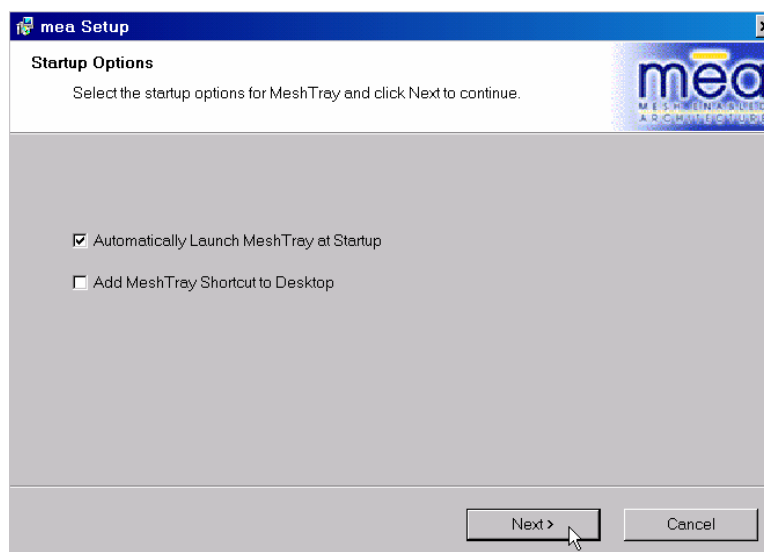

Figure 17. MEA Setup – Startup Options Dialog Box
8. The *Startup Options* dialog box will be displayed as shown in Figure 17. The user can modify the default installation configuration by checking or un-checking the boxes on this installation dialog box. Click on **Next** to continue the installation process.